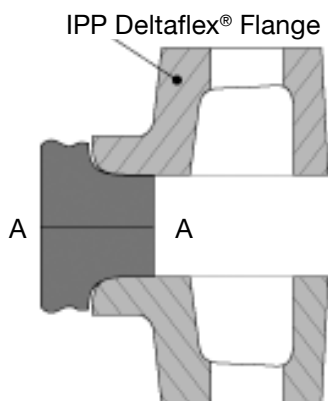

Fig.1 HDPE Stub-end
1. The sealing faces of the two stub-ends in a joint should contact each other, or in the case of rubber gasketed joint, they should be parallel to each other all around the circumference and in full contact (see lines A–A, B–B, C–C in Fig. 1 and 2).
1. Install all the bolts and nuts finger-tight, ensuring at all times that the alignment conforms to figures 1, 2, and 3.